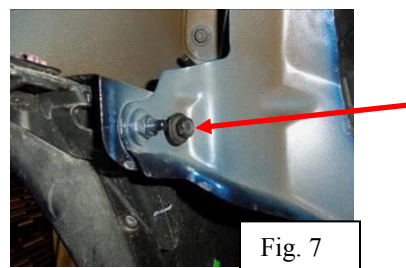

Fig. 7
8. Use a 10mm socket to remove the bolt on the back side of the marker light in the bumper; do not remove the nut (Fig. 7).